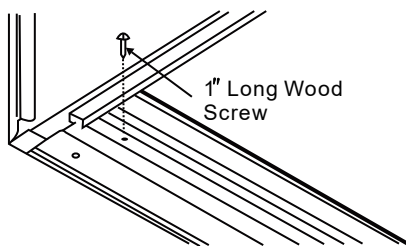

Fig.6
4. Secure bottom rail to wood frame with two large wood screws 1"(2.5cm) long using the two holes in the bottom of the channel resting on frame.(See Fig.6 ).